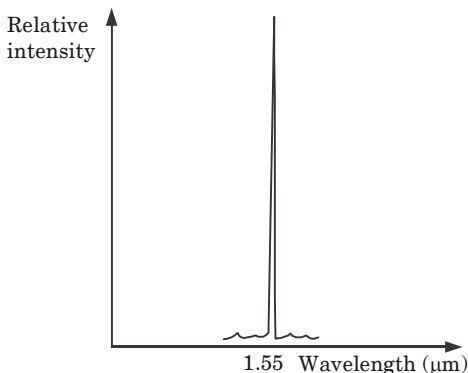

Fig. 3.23.1. Single mode laser.
13. Fig. 3.23.1 shows a typical output spectrum for a single mode device. However, injection lasers with short cavity lengths (around $50\text{ }\mu\text{m}$) are difficult to handle and have not been particularly successful.